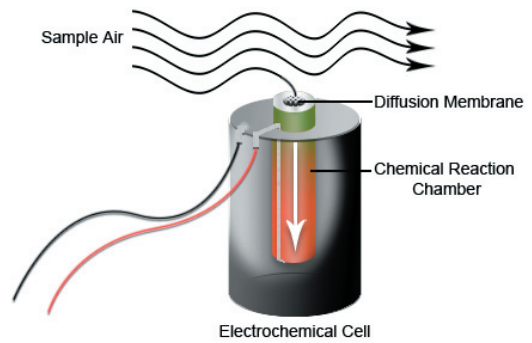

Figure 17
**Electrochemical Fuel Cell:** (Figure 17) Like the name implies, this sensor is indeed a battery. And just like a battery, it has a finite life span. The gradual “death” of the cell results in sensor drift (which we account for at the end of each measurement cycle). We use it for the detection of Oxygen, Hydrogen, Hydrogen Sulfide, Nitrous Oxide, Carbon Monoxide (2000 ppm), and Sulfur Dioxide. Electrochemical Cells work by chemically reacting to the respective gas present in the sample. The target gas (Oxygen, for example) passes by the cell resulting in a chemical reaction which produces an electric current proportional to the concentration of oxygen in the sample. Electrochemical Fuel Cells consume some of the target gas during the measurement. Therefore, the amount consumed is taken into consideration when making calculations and subsequent measurements.